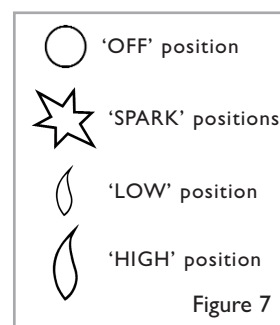

Figure 7
- The control knob is located on the lower right hand side of the outer case. It is marked as shown in figure 7.